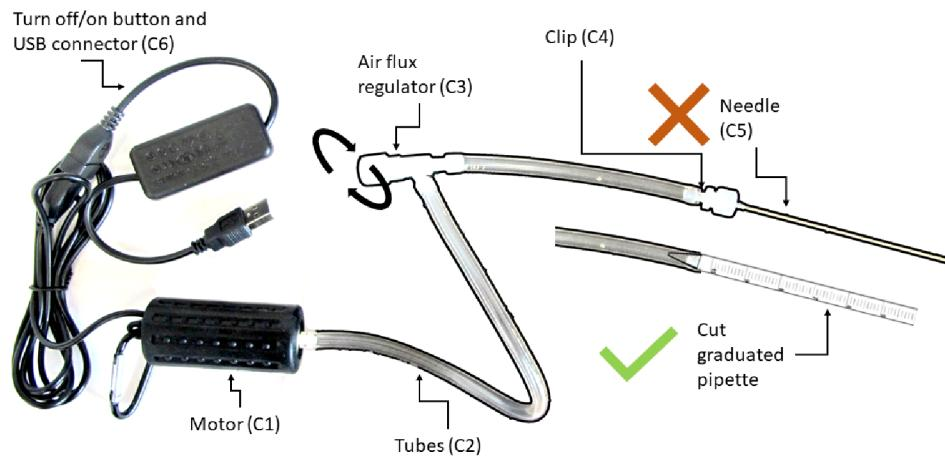

Figure 7 : The bubbler.
1. Assemble the bubbler like in the image below (fig.7). **It is recommended to use a cut glass pipette or something similar instead of the needle** provided (the needle can be clogged and does not allow a good control on the air flux).